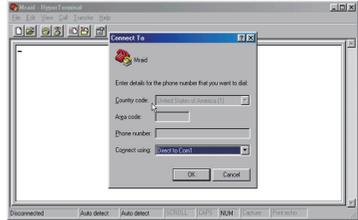

Figure 3.2-4
**Step 4.** Select an appropriate connecting port and then click "OK". (Figure 3.2-4)